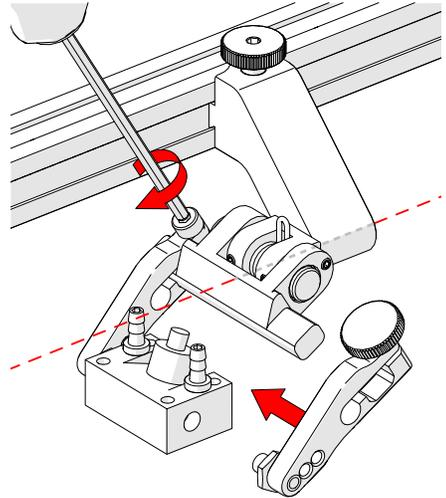

Fig. 37 - Place wedge and outer arm
TIP: The probe holder yoke can accommodate different probe and wedge sizes of varying widths. To reduce wedge tipping when scanning, centre the wedge with the yoke's pivot axis. Position the inner probe holder arm accordingly with the centre of the yoke (Fig. 37).
5. Position the wedge on the inner probe holder arm (Fig. 37).
6. Slide the outer probe holder arm along the yoke, pinching the wedge in place (Fig. 37).